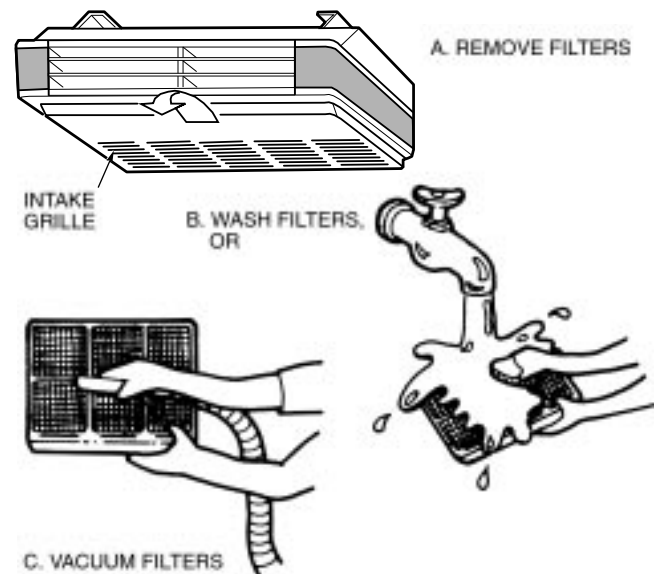

Fig. 23 — Cleaning Filters
To Remove and Clean or Replace Air Filters (Fig. 23)
2. Remove the intake grille and distribution assembly (attached). See Fig. 23.